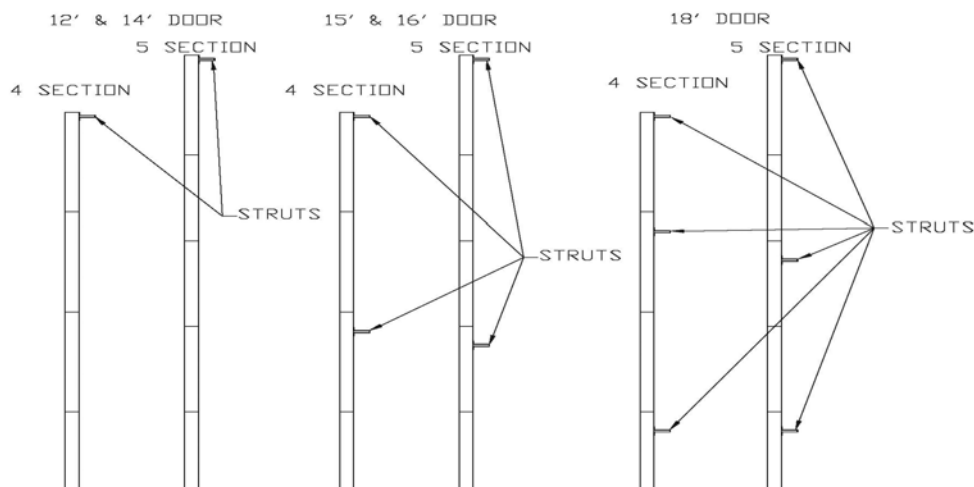

Figure 3
Step 3: At this time struts, if supplied with your door, should be installed. Doors 12' to 14' wide are supplied with one strut for the top section. Door 15' and 16' wide are supplied with two struts. Attach one strut to the top of the #2 section just below the hinges and attach one at the top of the section. 18' doors are supplied with three struts. Attach one to the top of the bottom section, attach one to the top of the #3 section, and attach one to the top of the top section. See figure 3.